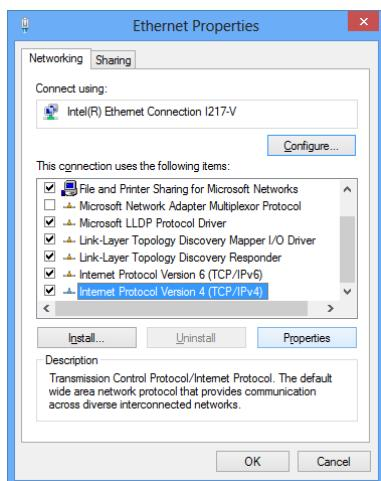

Fig. 5.9: Windows "Ethernet Properties"
4. Click on "Internet Protocol Version (TCP/IPv4)" and select "Properties" (Fig. 5.9).